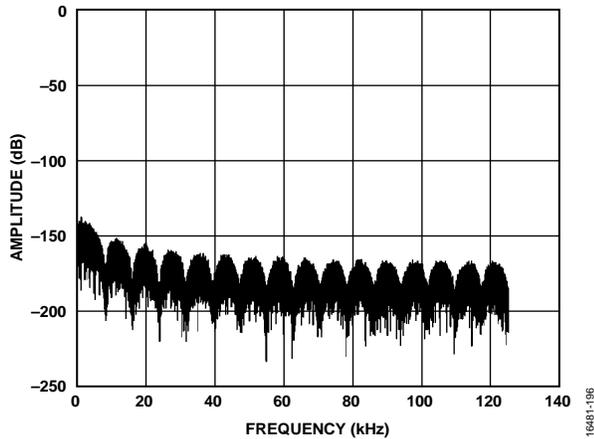

Figure 110. Example Filter Profile Upload
recognizable by the distinctive filter profile shown in Figure 110.
33. Gather data. The resulting filter profile is shown in Figure 110.